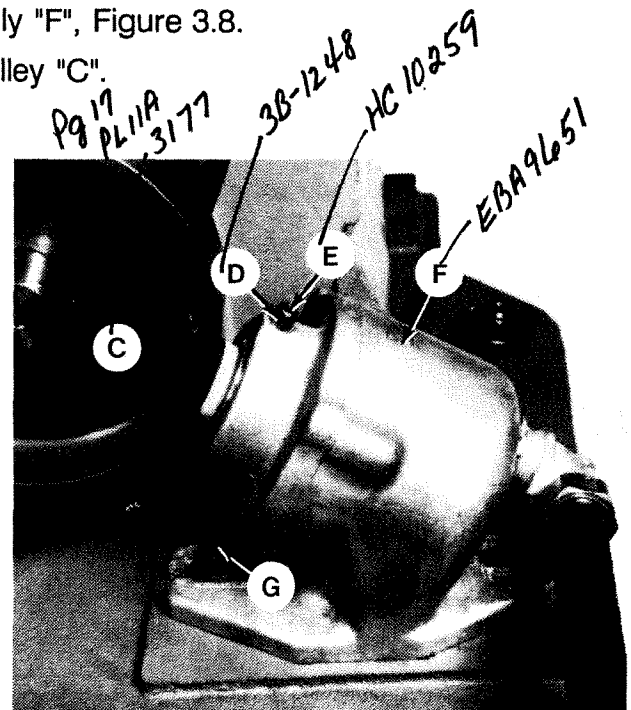

Figure 3.8 - Spindle Brake
12. Loosen mounting bolts "G" on brake assembly "F", Figure 3.8.
39. Install the motor belt on motor pulley "C", Figure 3.8 .
3. Loosen two bolts "G", Figure 3.8, and remove the brake assembly for easy access to the cork insert.
9. Replace the cork housing in the brake, orienting the keyway toward keyway guide screw "E", Figure 3.8 .